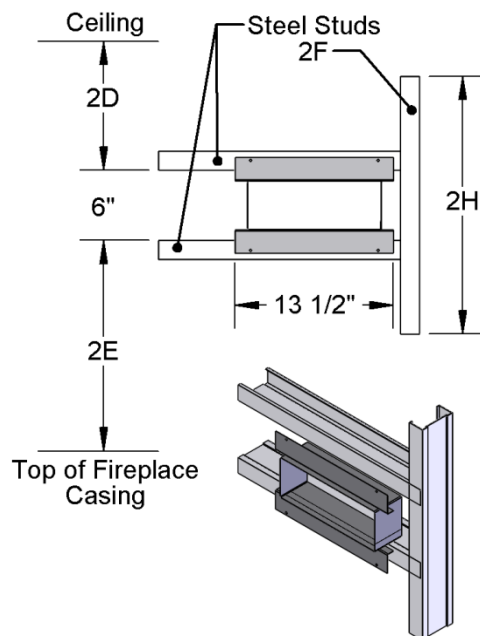

FIGURE 11 HRS OUTLET FRAMING AND CLEARANCES
3. Using steel studs, install a header at the location and height you wish to mount the air outlet grills. Refer to Figure 11 for framing requirements.
4. Attach the outlet grill adapters (H) that are pre-installed in the duct to the steel stud header.
5. Install a second steel stud to frame the grill adapters on top and bottom as shown in Figure 11.